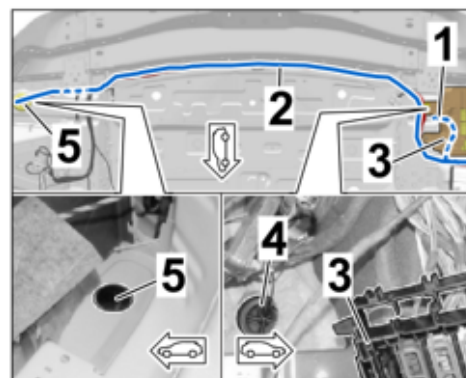

Figure 18
3.2.4 Rear end plate area and grommet/stopper for boot floor ⇒ Figure 18
- Branch for exhaust flap (left) to grommet/stopper for boot floor, left (beneath fuse box in boot (left) → branch for exhaust flap on the right to rear closing panel → along rear closing panel (⇒ Figure 18 -top-) → grommet/stopper for boot floor, right.